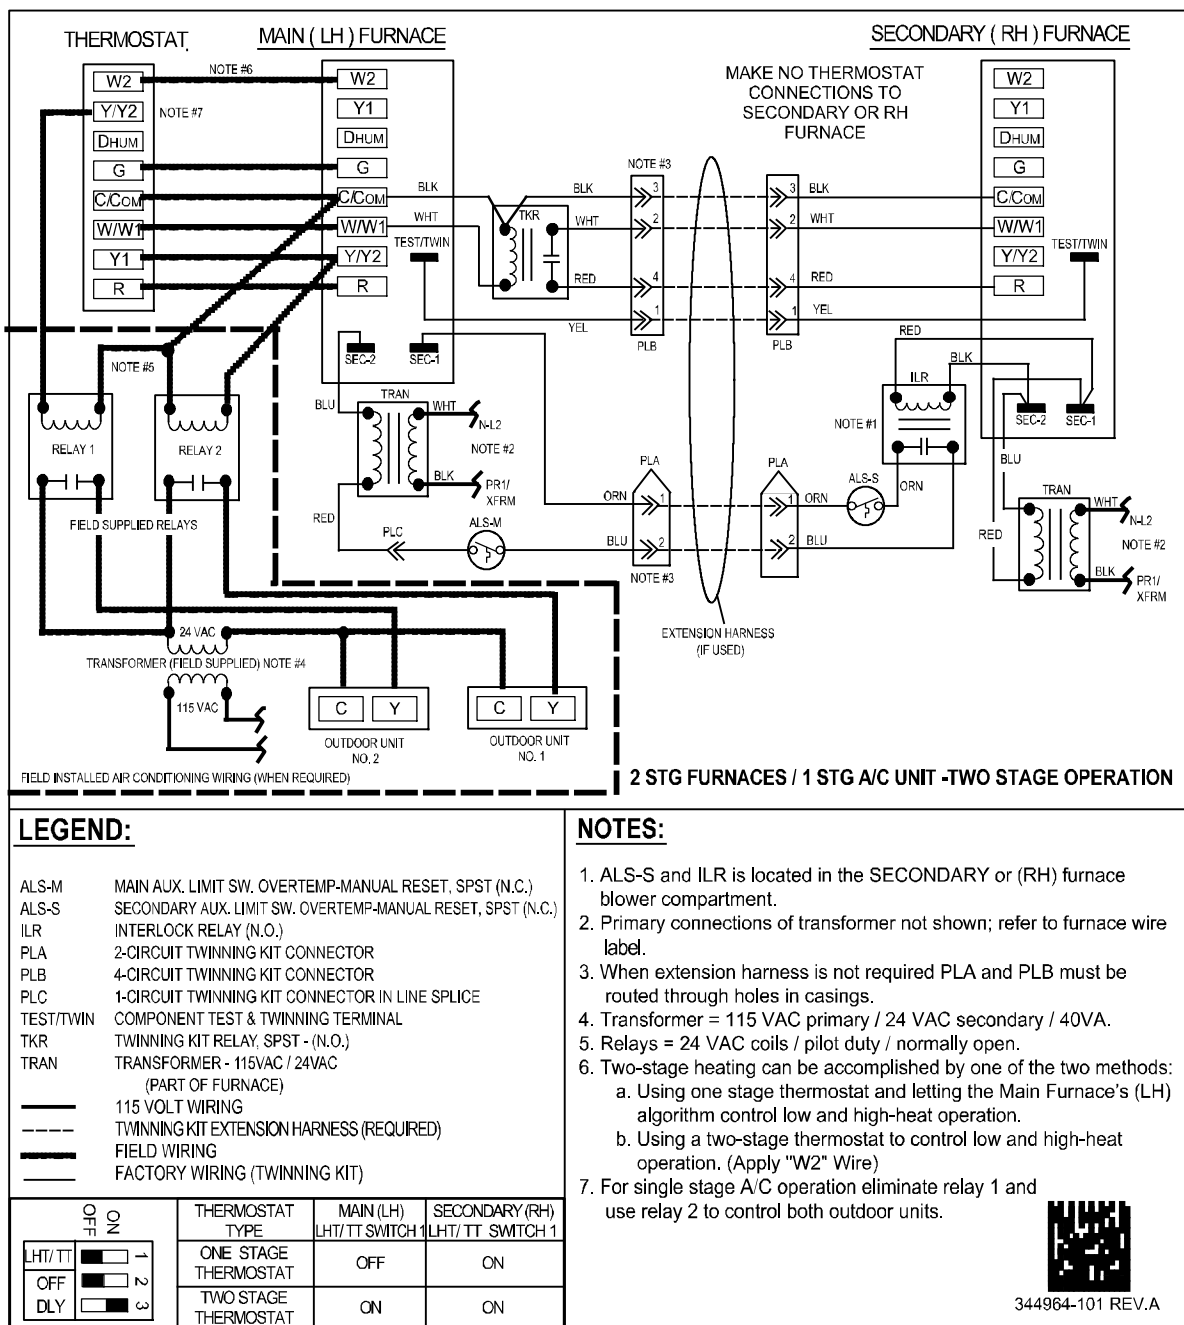

Fig. 21 - Two-Stage A/C Operation, Single-Stage Furnaces with Two-Stage Thermostat
- b. For staged operation of single-stage furnaces with a two-stage thermostat, remove the fork terminal from the terminal on the TKR and discard. The thermostat W2 lead is spliced into this wire. Refer to Fig. 21 and Thermostat Connections section for details.
See Fig. 21.
See Fig. 21 and Table 4